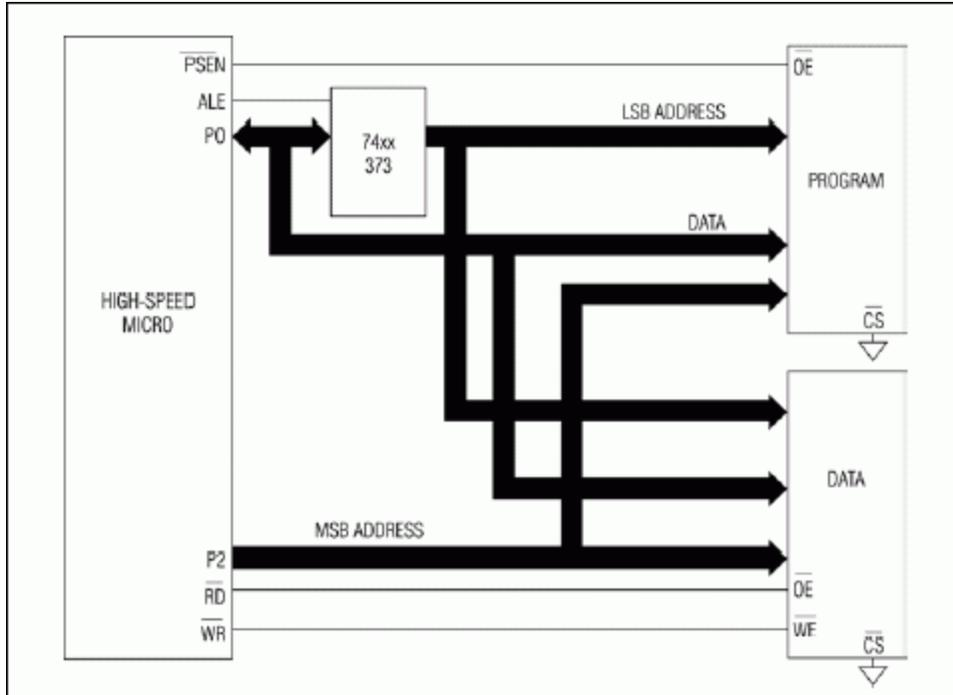

Figure 1. Non-page mode memory interface.
**Figure 1** shows the traditional 8051 memory interfacing scheme, also referred to as non-page mode. Port 2 of the microcontroller displays A15-A8 of the address, while Port 0 displays either A7-0 or data D7-D0 depending on which part of the memory cycle is being executed. This is the default mode of the microcontroller following a reset. In this example, both program and data memory devices are included in the system. Members of this family interface with external memories via a multiplexed bus to reduce pin count. As a result, an external latch such as a 74ACQ373 or 74ACQ573 with minimal propagation delay is necessary to demultiplex the address and/or data signals to the memories. The contents of the latch change every memory cycle, so the type and logic family must be carefully chosen as its propagation delay is in the critical timing path of the external memory interface.